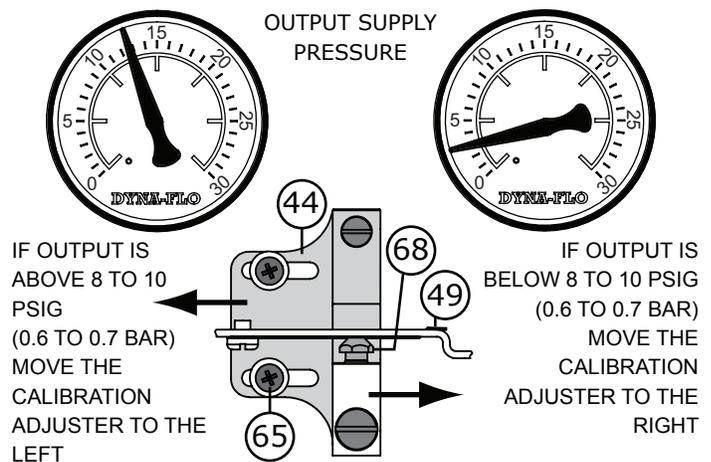

FIGURE 3 - REVERSE ACTING
**For Reverse Acting Controllers:** See Figure 3.